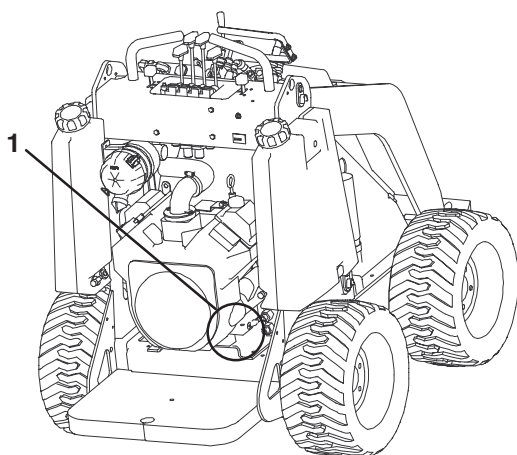

Figure 4
6. Remove the bolt and washer from the right, rear side of the base of the engine block, located in the location illustrated in Figure 4.